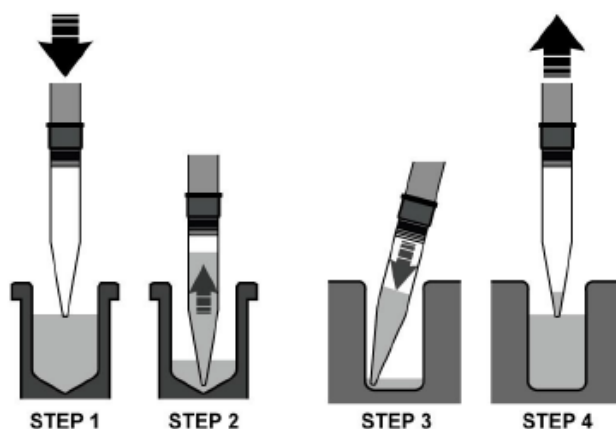

Figure 16. Reverse pipetting.
- Add Gel-Dye solution to chip wells 3, 7, 8, and 10 using a Reverse Pipetting Technique as shown in Figure 16.